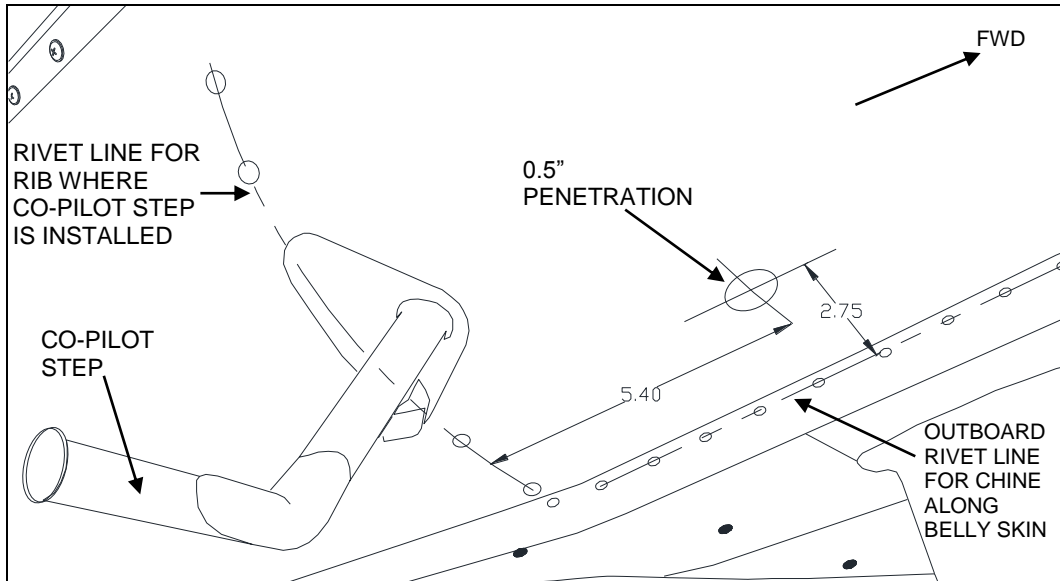

Figure 17: Location of hole on Fwd Cockpit Belly skin
3. Create a penetration, with a diameter of 0.500" in the Fwd Cockpit Belly Skin forward of the co-pilot step in the location defined in Figure 17.